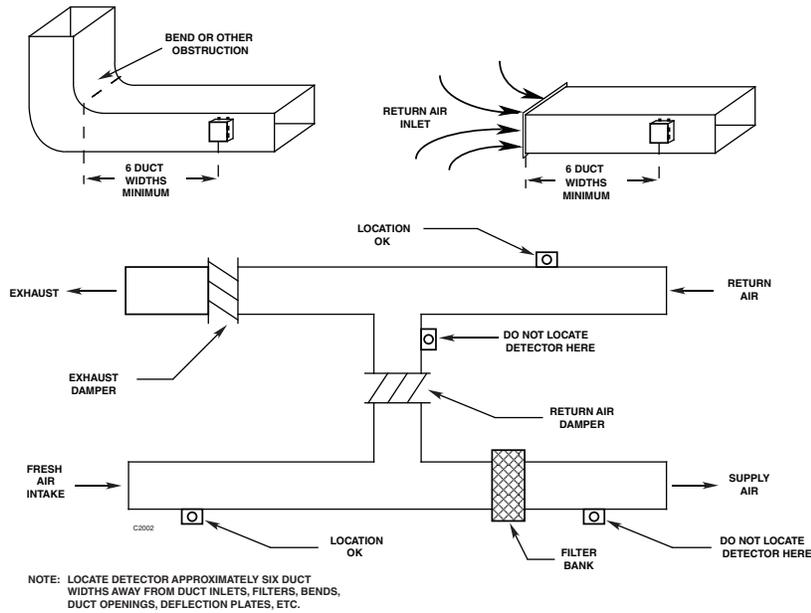

Figure 4—Detector Location Options within the Duct
2. When detectors are located downstream from “obstructions” such as filters, bends, duct openings, or deflection plates, they should be installed approximately six duct widths away from the obstruction. See Figure 4. These locations provide fairly uniform, non-turbulent air-flow, and are homogenous with respect to air/gas mixing.